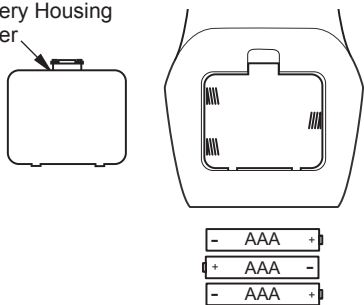

Figure 18 - Battery Install Hand-Held Remote Control
1. Remove battery housing cover from back of hand-held remote (see Figure 18).